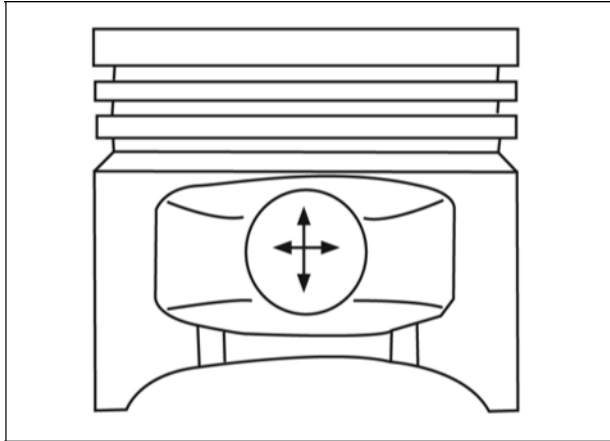

Figure 5
4. Check piston pin bore (Figure 5).